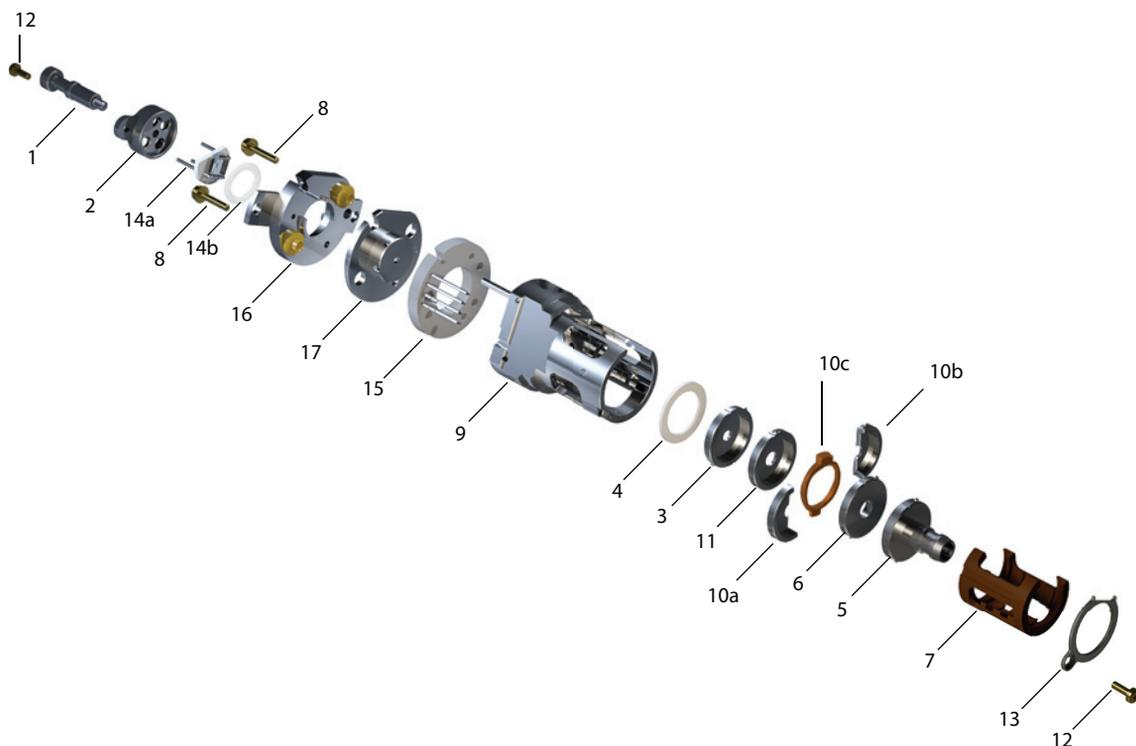

Figure 52. Exploded parts view of the EI HES 2.0
Refer to the exploded parts view and the EI HES 2.0 parts list while using this procedure. (See **Figure 52** on page 173 and **Table 16** on page 174.)
Start with item 3 in Figure 52, followed by items 11, 10, 6, and 5. When you remove the split extractor lens with insulator (item 10), detach the insulator from the metal lens halves.
Table 16 Parts list for EI HES 2.0 (Figure 52)